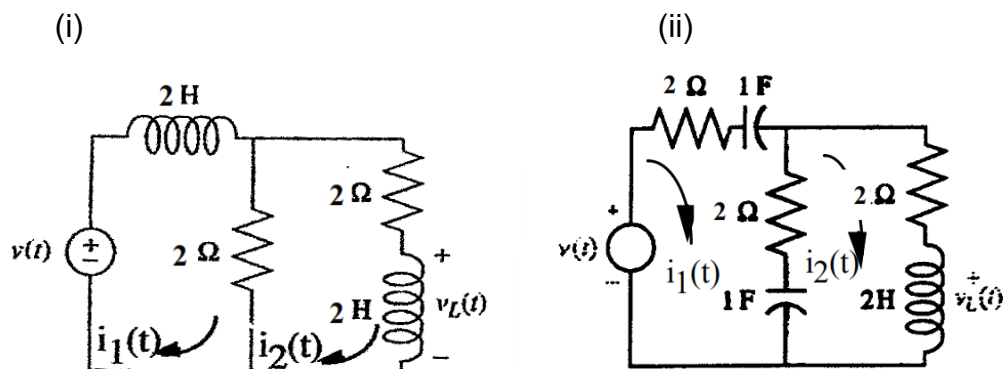

Figure 3 – Schematic of electrical network
- (c). Find the transfer function, $G(s) = V_L(s)/V(s)$ for each of electrical network shown in Figure 3.